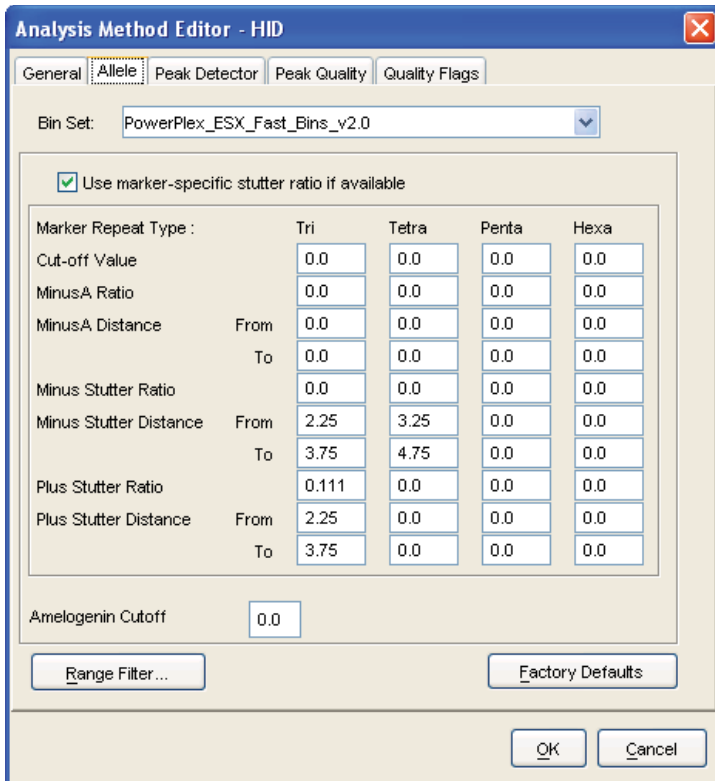

Figure 18. The GeneMapper® ID 'Allele' tab.
6. Select the 'Allele' tab (Figure 18).
9. Enter the values shown in Figure 18 for proper filtering of stutter peaks when using the PowerPlex® ESX 16 Fast System. For an explanation of the proper usage and effects of these settings, refer to the Applied Biosystems user bulletin titled “*Installation Procedures and New Features for GeneMapper ID Software 3.2*”.